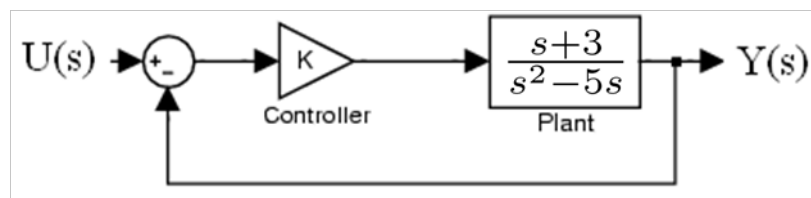

Figure 1: Simple proportional control system
Consider the system shown in Figure 1 below.
- b. Suppose you use proportional feedback control as shown in Figure 1. Explain *why* the scheme above is called proportional feedback. Explain *how* this scheme can be used to stabilize the system (show the *how* part mathematically).
- a. **TASK 1:** Construct the simple feedback system shown in Figure 1 in Simulink. For the following tasks, plot the step input and the response of the system on the same graph: